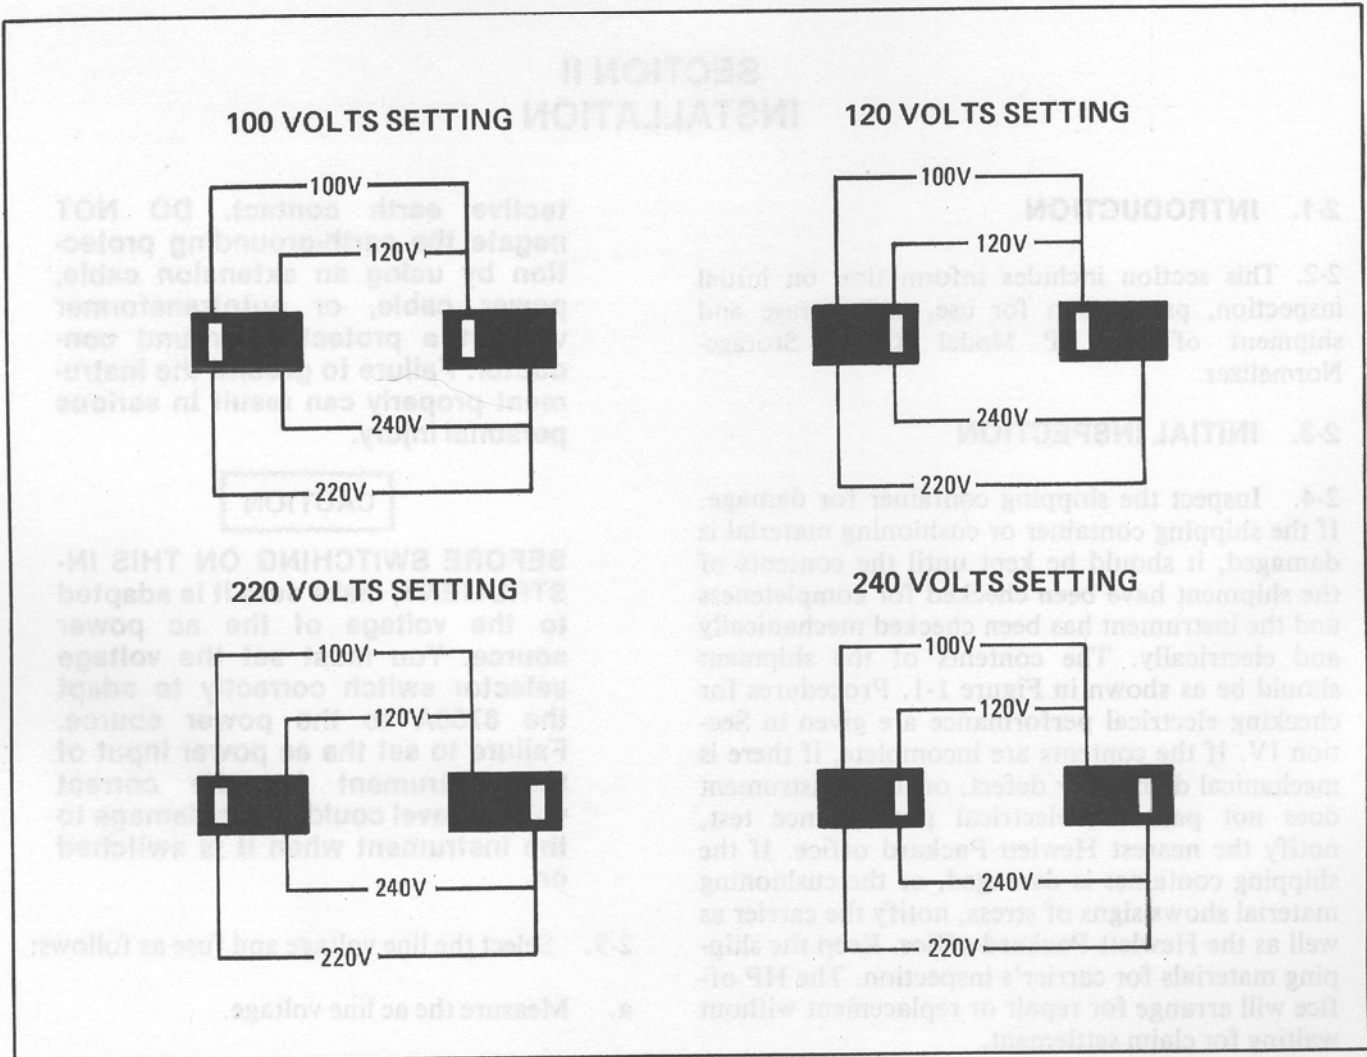

Figure 2-1. AC Power Level Selector Switch Positions
- b. Refer to Figure 2-1. At the instrument's rear panel ac power level switch, select the line voltage (100V, 120V, 220V, 240V) closest to the voltage you measured in step a. Line voltage must be within  $+5\%$  or  $-10\%$  of the voltage setting. If it is not, you must use an autotransformer between the ac source and the 8750A.